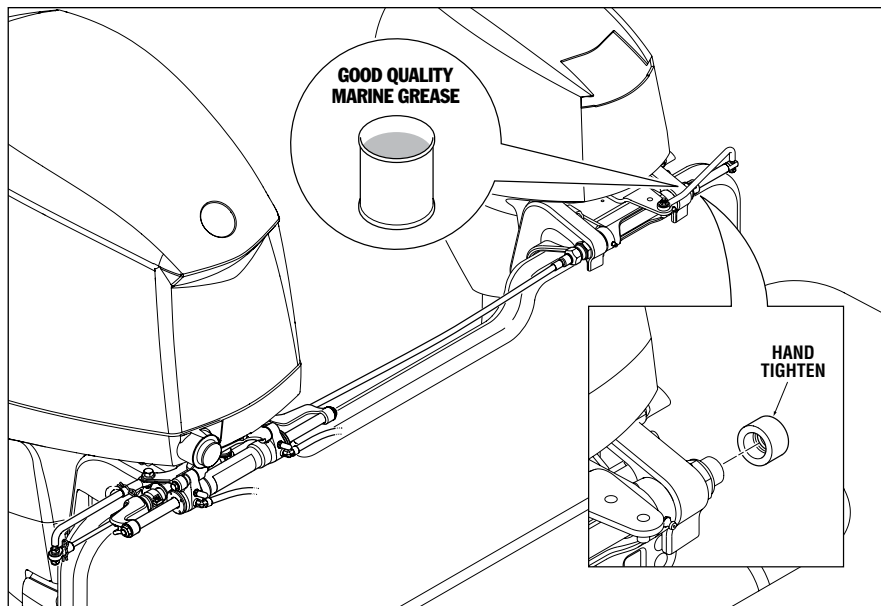

Figure 13. Cap Seal Installation.
- Ensure the cap seal is installed to prevent contamination in the steering/tilt tube area. (See Figure 13 on page 10.)